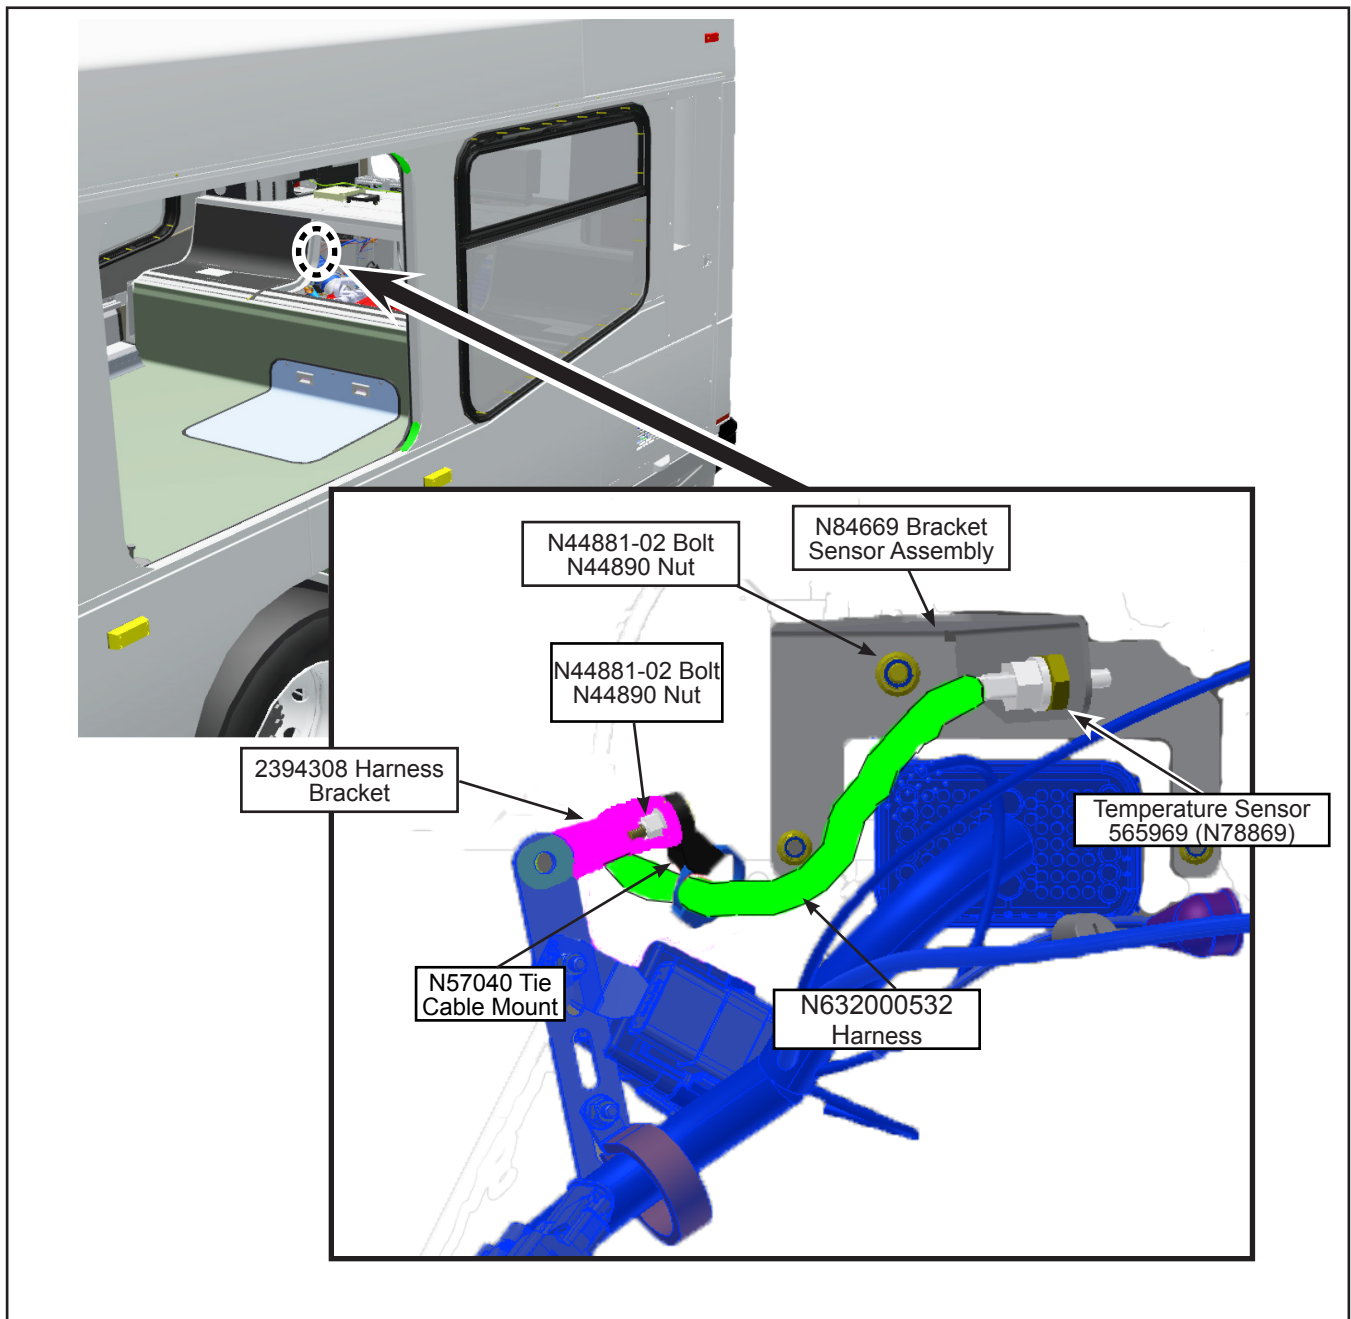

Figure 17 - Install and Connect Temperature Sensor
- 1.32. Install the tie cable mount N57040 onto the harness bracket 2394308 with an N44881-02 bolt and N44890 nut (see Figure 17).
- 1.33. Use the rear seat hatch to access the engine compartment. Install harness bracket 2394308 with existing hardware (see Figure 17).
- 1.35. Install the sensor (see Figure 17).